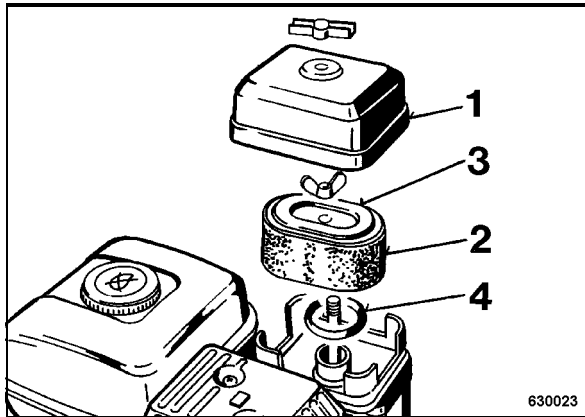

Fig. 41
- Loosen the fastening for the cover and remove the cover (Fig. 41).